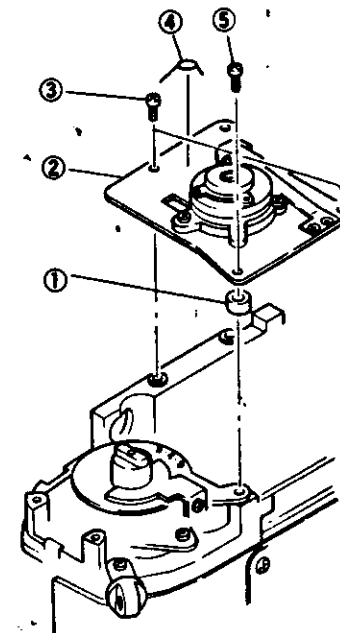

Fig. 42
14. SD base plate assy (see Fig. 42)